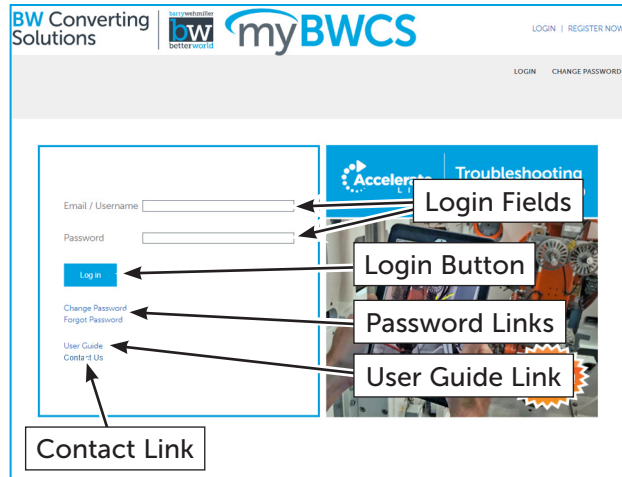

Figure 1: Login Page
The Login Page is where users log in to their myBWCS account to access their machine documentation (Figure 1). On this page there are also links to change passwords, reset forgotten passwords, view the user guide, and contact the web portal administrator.
2. Once you have entered your information, click on the Login button (Figure 1).